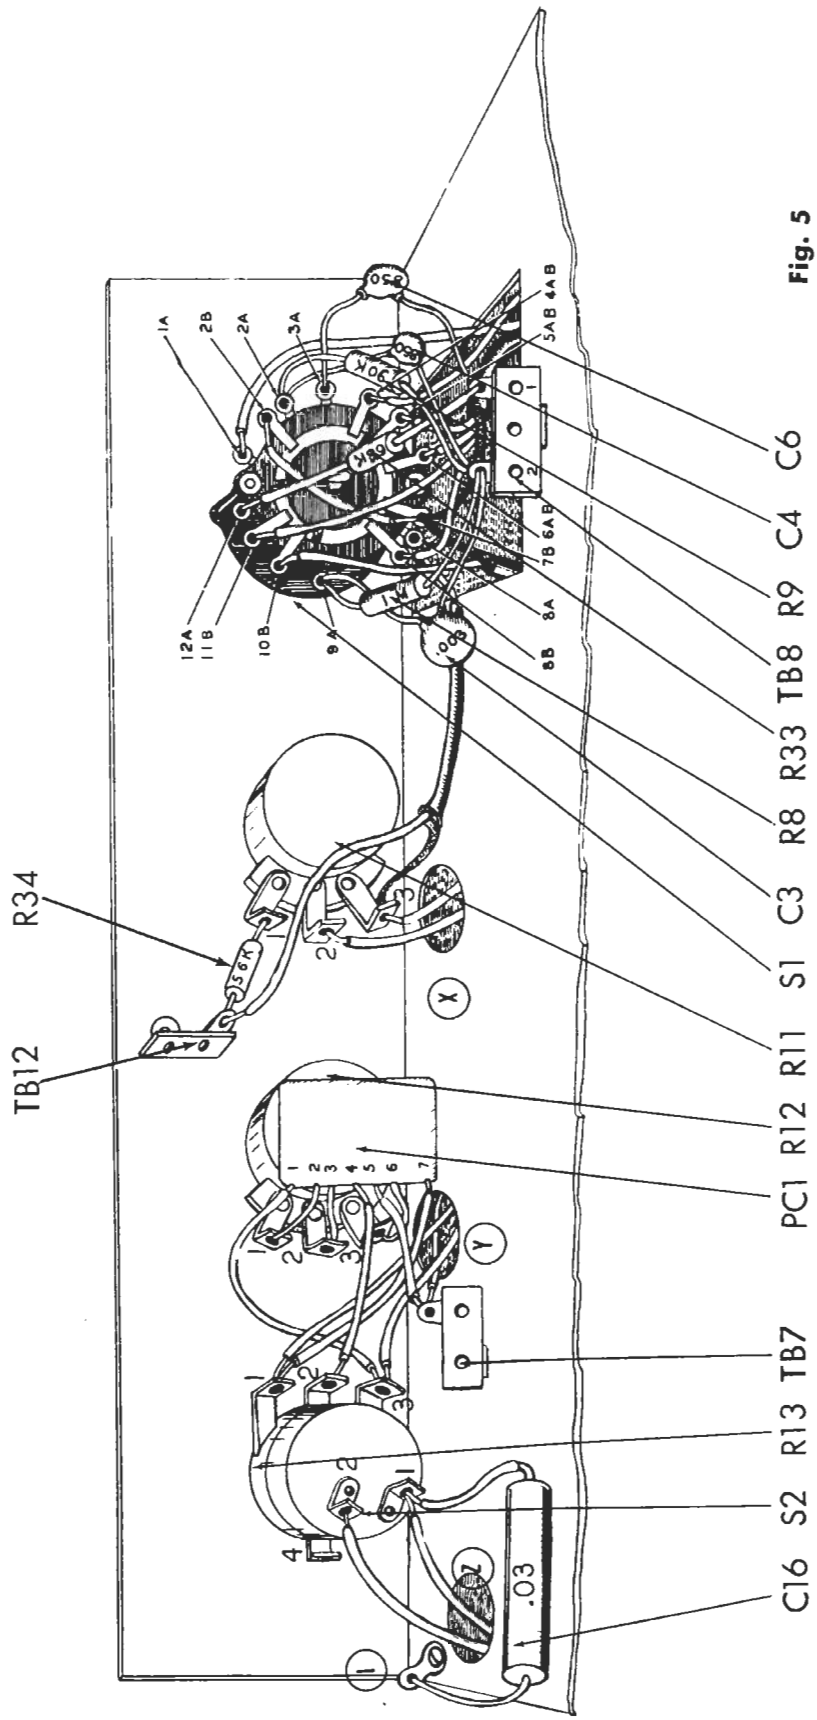

Fig. 5
1. ( ) Fig. 5. Strip the outer insulation of one end of the 4 conductor cable back 1 3/4". Unwrap the outer shield and twist shield strands. Cut the outer shield to 1/2", the brown lead to 3/4", the red lead to 1" and the yellow lead to 1 1/4". Connect the shield wire to S1-7B (C), the brown lead to S1-6AB (S), the red lead to S1-5AB (S), the orange lead to S1-11B (S) and the yellow lead to S1-8B (S). Push the remainder of the shielded lead through the rectangular hole under the switch to the bottom of the chassis.
2. ( ) Fig. 5. Strip the outer insulation of one end of a 3 1/2" piece of single conductor shielded wire back 1". Unwrap the outer shield and twist shield strands. Cut the outer shield to 1/2". Connect the shield wire to S1-7B (C) and the inner conductor to S1-10B (S). Push the remainder of the shielded lead through the rectangular hole under the switch to the bottom of the chassis.
3. ( ) Fig. 5. Connect a 2" piece of bare wire covered with 1 1/2" of spaghetti from S1-7B (S) to S1-2B (S).
4. ( ) Fig. 5. Strip the outer insulation of one end of a 4 1/2" piece of single conductor shielded wire back 1/2". Unwrap the shield and cut off. Strip the insulation of the inner conductor back 1/4" and connect to S1-8A (S). Strip the outer insulation on the other end back 3/4". Unwrap the outer shield and twist shield strands. Strip the insulation of the inner conductor back 1/4" and connect to TB12 (C). Cut the shield strands to 1/2" and connect to R11-3 (C).
5. ( ) Fig. 5. Connect a 3" piece of black wire to R11-3 (S). Push the remainder through hole "X".
6. ( ) Fig. 5. Connect one end of a 2" piece of green wire to S1-4AB (S). Push the rest of the lead through the rectangular cutout under the switch to the bottom of the chassis.
7. ( ) Fig. 5. Connect one end of a 4" piece of yellow wire to S1-1A (S). Running lead as shown, push the rest of the lead through the rectangular cutout under the switch to the bottom of the chassis.
8. ( ) Fig. 5. Connect a 850mmf disc ceramic capacitor, C6, from S1-3A (S) to TB8-1 (C). Cut both leads to 1".
9. ( ) Fig. 5. Connect a 68KΩ (blue, grey, orange, gold) 5% resistor, R33, from S1-12A (S) to TB8-1 (S). Cut both leads to 1" and cover each with a 3/4" piece of spaghetti.
10. ( ) Fig. 5. Connect a 90KΩ (white, black, orange, gold) 5% resistor, R9, and an 850mmf disc ceramic capacitor, C4, from S1-2A (S) to TB8-2 (C). Cut all leads to 1".
11. ( ) Fig. 5. Connect a 1MΩ (brown, black, green, silver) 10% resistor, R8, and a 3000mmf disc ceramic capacitor, C3, from S1-9A (S) to TB8-2 (S). Cut all leads to 1".
12. ( ) Fig. 5. Connect one end of a 2 1/2" piece of green wire to R11-2 (S). Push the remainder of the wire through hole "X" near R11 to the bottom of the chassis.
13. ( ) Fig. 5. Connect one end of a 4" piece of green wire to TB7 (C). Push the remainder of the wire through hole "Y" near R12 to the bottom of the chassis.
14. ( ) Fig. 5. Connect one end of a 5" piece of yellow wire to R13-1 (C). Push the remainder of the wire through hole "Y" near R12 to the bottom of the chassis.
15. ( ) Fig. 5. Connect the black lead that passes through hole "Y" to R13-3 (C).
16. ( ) Fig. 5. Cut and connect the leads on the printed circuit board PC1, in the prescribed sequence as follows. Put 2 1/4" of spaghetti on lead 1; 1 1/2" of spaghetti on lead 4; 1" of spaghetti on lead 5 and 2" of spaghetti on lead 7.
17. ( ) Fig. 5. Connect the .03mfd molded capacitor, C16, from S2-1 (C) to ground lug "1" (S). Cut both leads to 1 1/2". Cover the lead going to S2-1 with 1 1/4" spaghetti.
18. ( ) Fig. 5. Cut both leads on a 56KΩ (green, blue, orange, silver) resistor, R34, to 1/2". Connect from TB12 (S) to R11-1 (S).
26. ( ) Fig. 6. Connect the line cord lead from hole "Z" to S2-2 (S) and the brown lead to S2-1 (S). See Fig. 5.